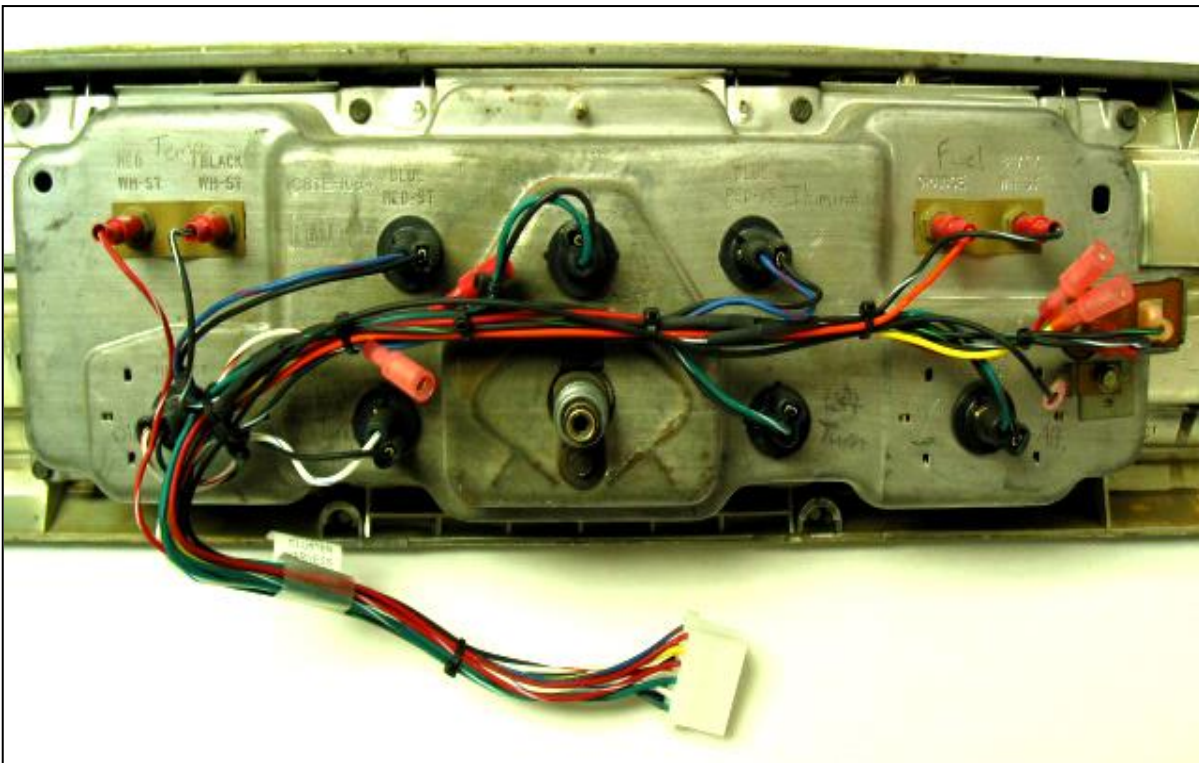

Figure 7-34 1967 thru 1969 Models - Cluster Harness
- 7.16.1** Locate the “Early Cluster Harness” in the kit. This harness will connect to the back of a 1967, 1968 or 1969 Dash Cluster only. Some clusters have gauges for Fuel Level and Temperature only. See Figure 7-34. Other clusters have all four gauges. On the early stamped steel Ford clusters the wire color of each connection is stamped into the metal.
- 7.16.2** After removing the original harness, carefully lay the new cluster harness over the back of the cluster as shown. Now read the wire designations by each (holes – for lights) and (threaded studs – for sockets). Connect the harness as shown in Figure 7-34. **NOTE: If the cluster being wired has an ammeter and not a charge light, the bulb and socket for the charge light must be cut off and the wires spliced together. If this step is skipped the charging system will not work.**